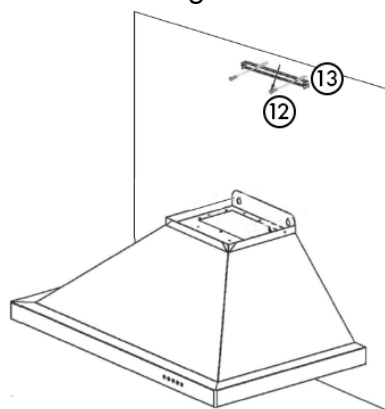

Figure 3
4. Mount the top chimney mounting bracket near the ceiling by drilling two holes, tapping 2 anchors (Item No. 12) into the wall and then securing with 2 screws (Item No. 13). Make sure the chimney bracket is centered and level above the hood. *Figure 3*